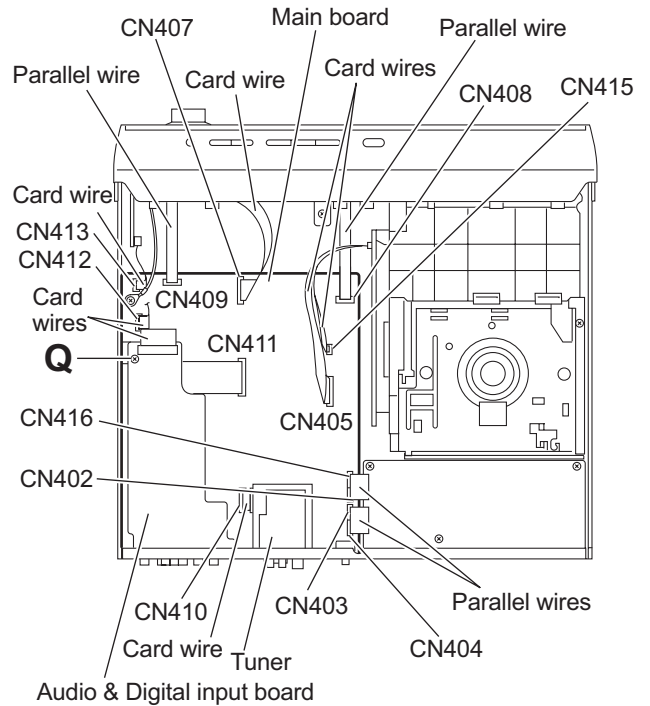

Fig.11
3.1.8 Removing the main board (See Figs.11 to 13)
- (1) From the top side of the main body, disconnect the card wires from the connectors (CN405, CN407, CN410, CN411, CN413, CN415) on the main board. (See Fig.11.) [US/UW/UG version]
- (2) From the top side of the main body, disconnect the card wires from the connectors (CN405, CN407, CN410, CN411, CN412, CN415) on the main board. (See Fig.11.) [UJ version]
- (3) Disconnect the parallel wires from the connectors (CN416, CN402 to CN404, CN408, CN409) on the main board. (See Fig.11.)
- (4) Remove the screw **Q** attaching the audio & digital input board. (See Fig.11.)